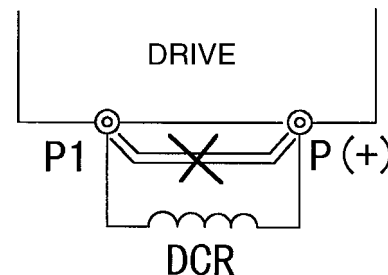
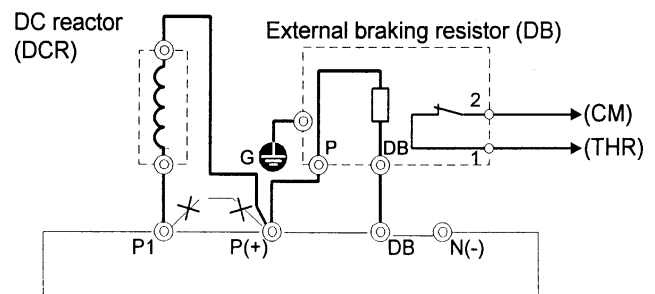

Fig. 2-3-3
Fig. 2-3-4 Connection (15 Hp or less)
2. When you need to connect source type logic, refer to Basic Connection Diagram Fig. 2-3-3 and Fig. 2-3-4 and Technical Information Manual. (Sink Logic is commonly used in the USA and Source Logic is commonly used in Europe.)